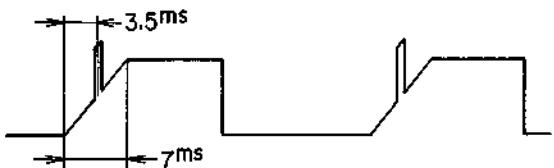

Fig. 8
- (6) Connect Oscilloscope to Test Point TP-6. Confirm that the Speed Control Sampling Pulse is about 3.5 ms away from the rise-up point of the Trapezoid Wave Ramp Slope. (See. Fig. 8)